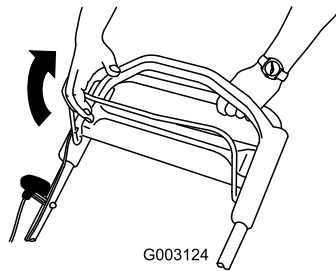

Figure 23
2. Pull the blade control bar to the handle (Figure 23).